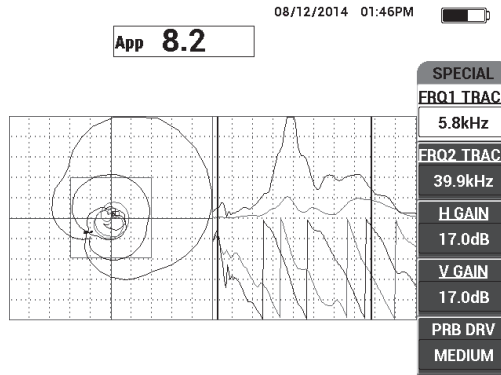

Figure 6-59 The frequency spectrum view (right side of screen)
5. Slowly scan over defects, and carefully observe the frequency spectrum (right view), in particular the amplitude component (top right) [see Figure 6-59 on page 173].